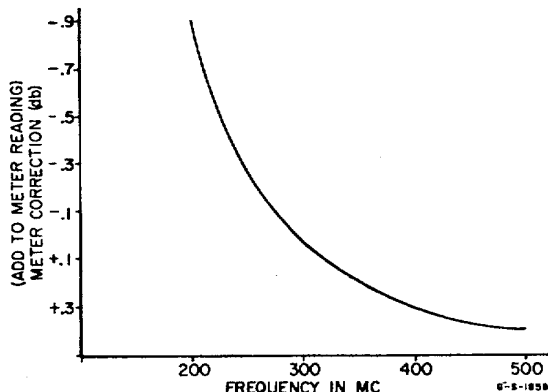

Figure 5-3. Model 394A Noise Source, Typical Correction for Hot-Cold Loss at Low Frequencies
- c. At frequencies below 500 Mc refer to Figure 5-3.